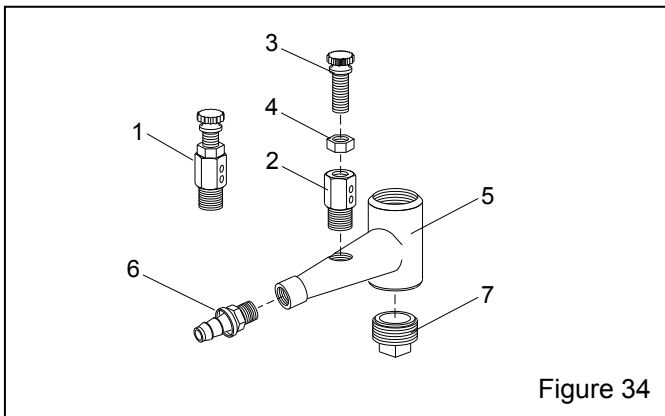

Figure 34
9.5 Metering Valve Assembly, Figure 34